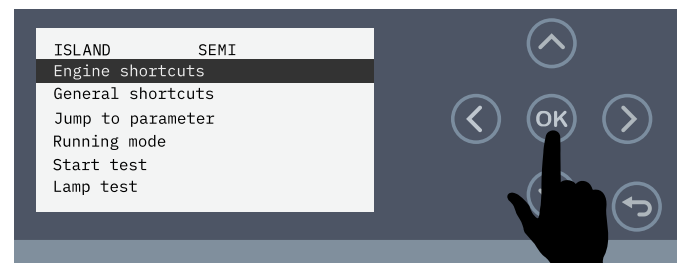

Figure 152. Select Engine Shortcuts
2. Make sure **Engine shortcuts** (Figure 152) is highlighted on the display, then press the **OK button**.